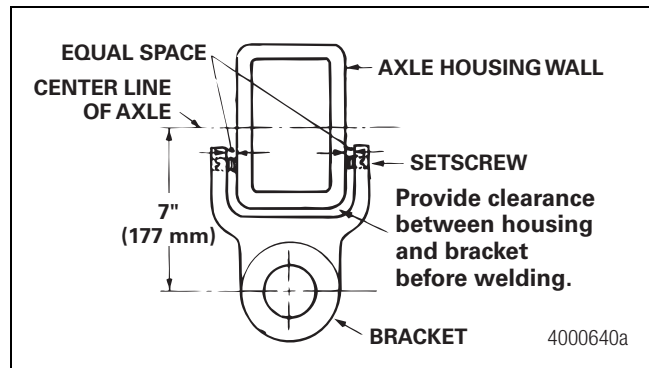

Figure 3.21
2. Verify that there is an equal space between each bracket and housing wall on the front and back of the axle housing. Also verify that the center line of the bracket bore is seven-inches (177 mm) below the center line of the housing. Figure 3.21.